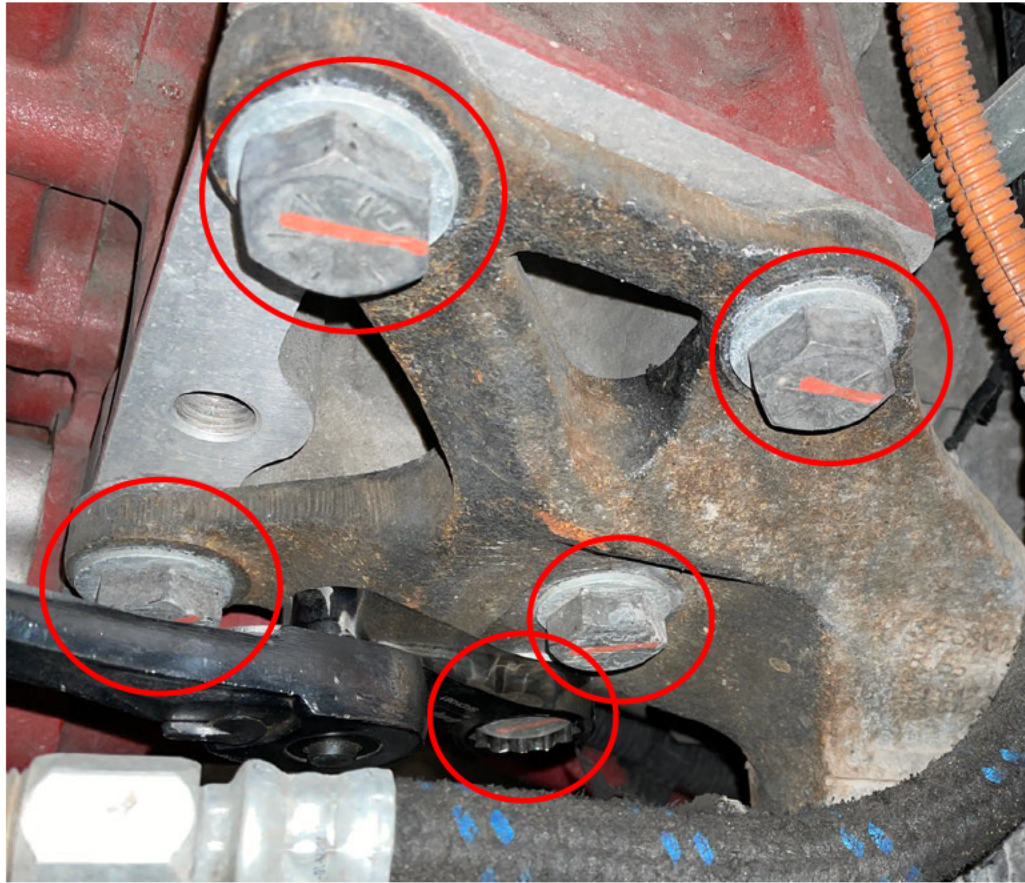

Fig. 2, Five Bolts with Torque Tool Installed.
6. Inspect the rear engine mounting bolts for missing or loose bolts. See **Fig. 2 and 4**.
7. If the bolts are present and do not appear to be loose, install ½ Drive 1-1/8 12-point torque adaptor (p/n: SRDH361). See **Fig. 2**.
8. Connecting a ½ drive torque wrench to the torque adaptor, check torque on all five engine bolts to 216 lbf·ft (288 N·m). Confirm no rotation in bolt is seen prior to 216 lbf·ft (288 N·m). See **Fig. 2 and 4** for correct bolts.